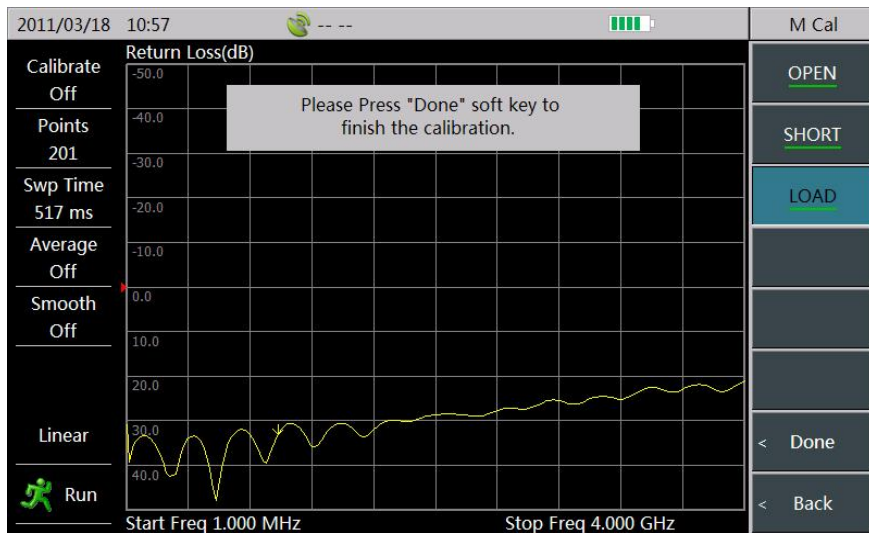

Figure 1-6 Calibration Completion
- Following by screen tips, connect the load to the test port. Then, select the [Load] menu, at this time, the screen will automatically prompt “[LOAD]Measuring.....”. When the [LOAD] menu becomes into [LOAD], it indicates completion of the load calibration, as shown in Figure 1-6. At this moment, select the [DONE] menu to finish the mechanical calibration process.